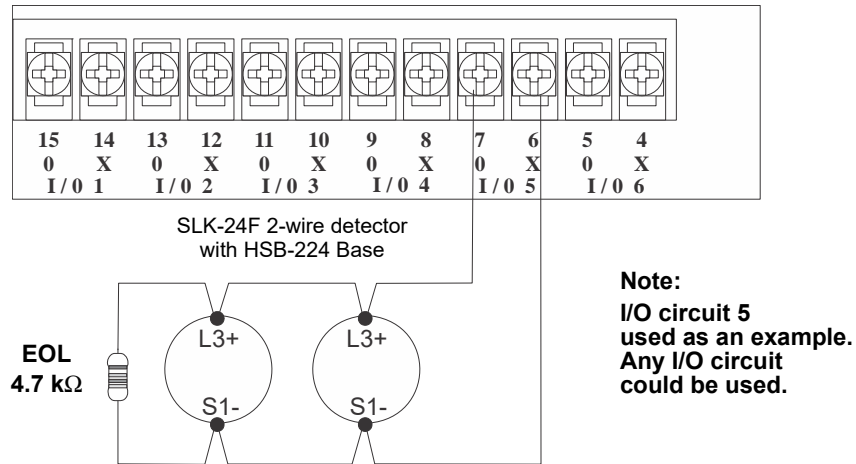
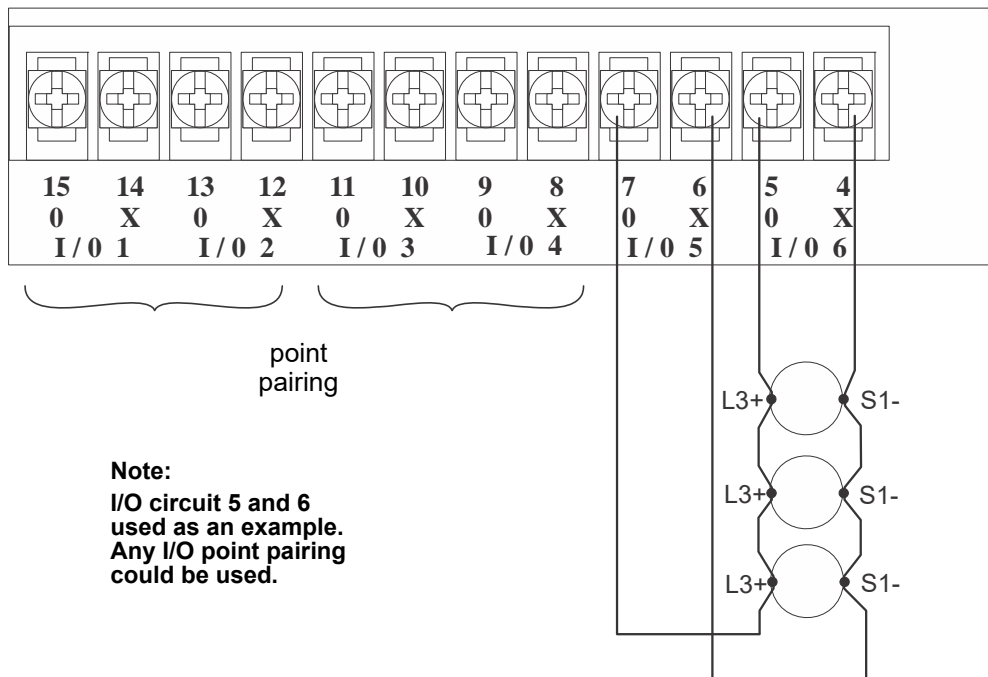

Figure 3.13 Two-Wire Class B Smoke Detector
Figure 3.14 Two-Wire Class A Smoke Detector Connections
Any compatible UL listed two-wire smoke detector can be used with the FIK-RPS1000 panel (see A.8.1, "Two Wire Detectors" for list of compatible smoke detectors). Figure 3.13 and Figure 3.14 illustrate how to connect a UL listed 2-wire detector to the control panel.
To install a Class B two-wire smoke detector, wire as shown in Figure 3.13.
To install a Class A two-wire smoke detector, wire as shown in Figure 3.14.
**NOTE:** In programming any point that uses multiple I/O circuits are always referred to as the lowest I/O circuit number used. For example, Figure 3.14 uses both I/O circuit 5 and 6, so in programming it would be referred to as point 5.
Any compatible UL listed four-wire smoke detector can be used with the FIK-RPS1000 panel (see Appendix A for list of compatible smoke detectors). Figure 3.13 and Figure 3.14 illustrate how to connect a UL listed four-wire detector to the control panel.